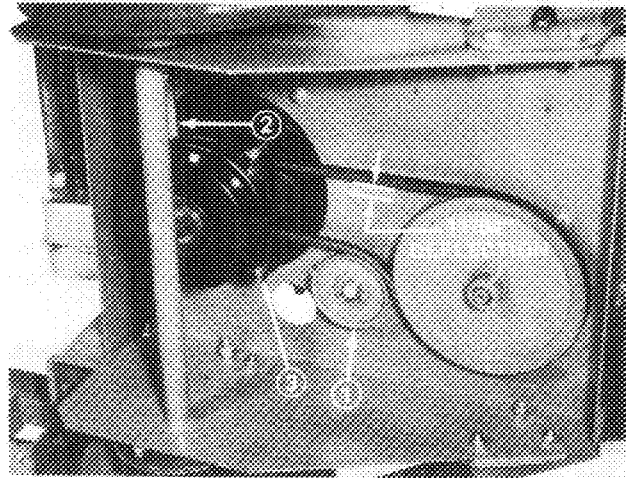

Figure 25
1. Loosen capscrew and flange nut securing idler pulley to frame (Fig. 25). Slide pulley outward relieving belt tension.
2. Remove left front engine mounting bolt securing clutch retainer to frame (Fig. 25). Unhook retainer from clutch and remove retainer.
3. Disconnect in-line wire connector and remove belt from drive pulley and clutch (Fig. 25).
6. Position and secure idler pulley to frame so belt deflection is no more than $11/64$ " when 5–1/2 lb of force is applied to mid span of long leg of belt (Fig. 25).
1. To adjust clutch, tighten or loosen locknuts on flange studs (Fig. 25).